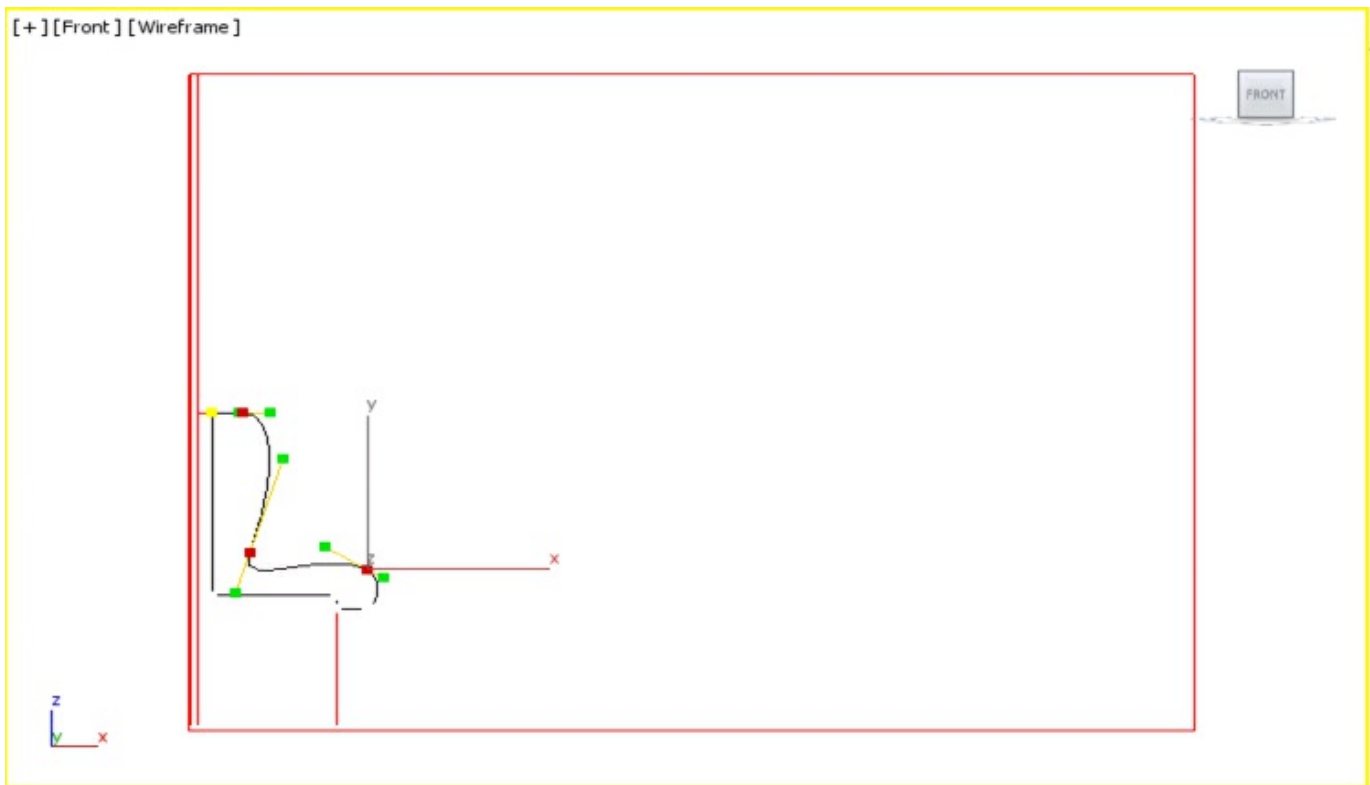

Figure P1-6 The vertices of Seat modified using the bezier handles
9. Using the **Select and Move** tool, move the bezier handles to form a curve for the back. Similarly, modify the middle-right vertex of *Seat*, as shown in Figure P1-6. Choose the **Vertex** button in the **Selection** rollout to exit the **Vertex** sub-object mode.